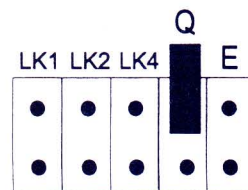

Fig.13
1. Remove link "Q" and fit to one pin only as in Fig.13